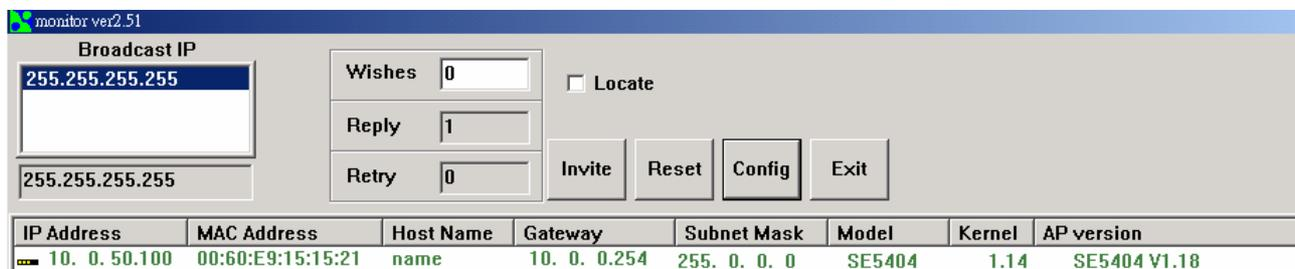

Figure 3.1. Configuring the static IP with monitor.exe utility
- >Execute Monitor.exe (Figure 3.1)